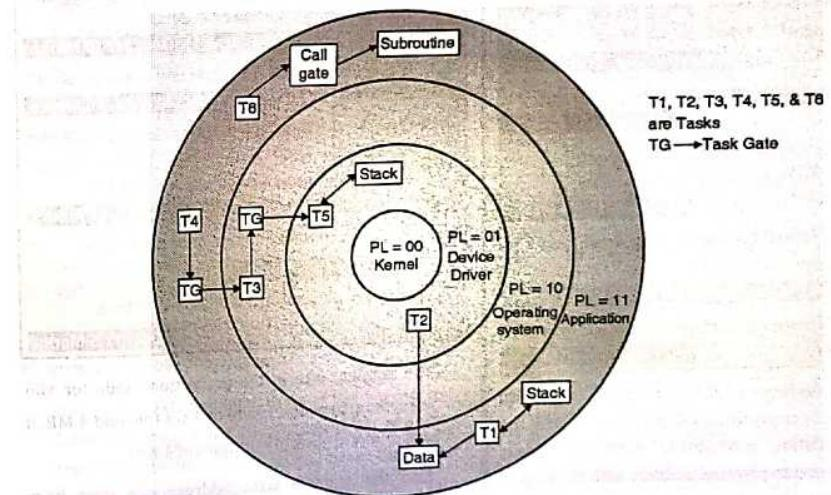

Fig. 12.6.2 : Rules for accessing data, code and stack
11. Accessing different types of programs using gates is shown in Fig. 12.6.2.